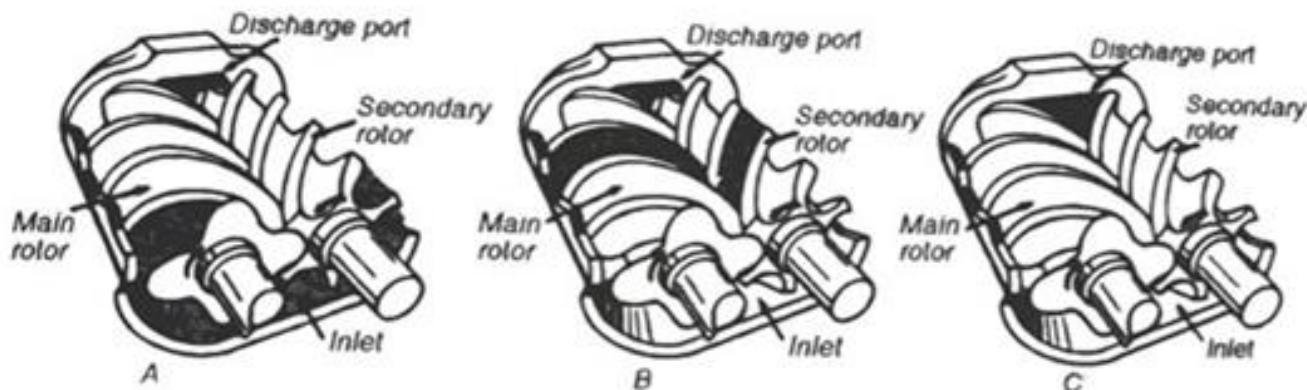

Figure 2-1 Compressor Cycle
Compression Principle - (Figure 2-1) Compression is accomplished by the main and secondary rotors synchronously meshing in a one-piece cylinder. The main rotor has five (5) helical lobes 90° apart. The secondary rotor has six (6) matching helical grooves 72° apart to allow meshing with main rotor lobes.
The air inlet port is located on top of the compressor cylinder near the drive shaft end. The discharge port is near the bottom at the opposite end of the compressor cylinder. *Figure 2-1 is an inverted view to show inlet and discharge ports.* The compression cycle begins as the rotors unmesh at the inlet port and air is drawn into the cavity between the main rotor lobes and the secondary rotor grooves (A). When the rotors pass the inlet port cutoff, air is trapped in the interlobe cavity and flows axially with the meshing rotors (B). As meshing continues, more of the main rotor lobe enters the secondary rotor groove, normal volume is reduced and pressure increases.